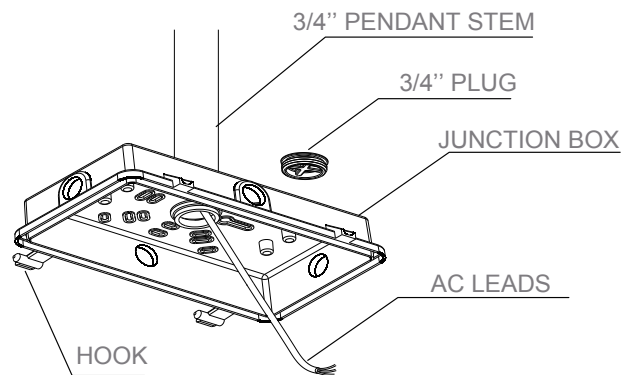

Figure 2
2. Remove the 3/4" Plug in the middle of Junction Box. Feed the customer supplied Pendant Stem and AC leads through the top 3/4" NPS opening of the junction box. Tighten the Pendant Stem. If need to be waterproof please make waterproof treatment between the Pendant Stem and Junction Box. See Figure 2.
3. Hung the Luminaire on the Hook of Junction Box. See Figure 2 and 3.